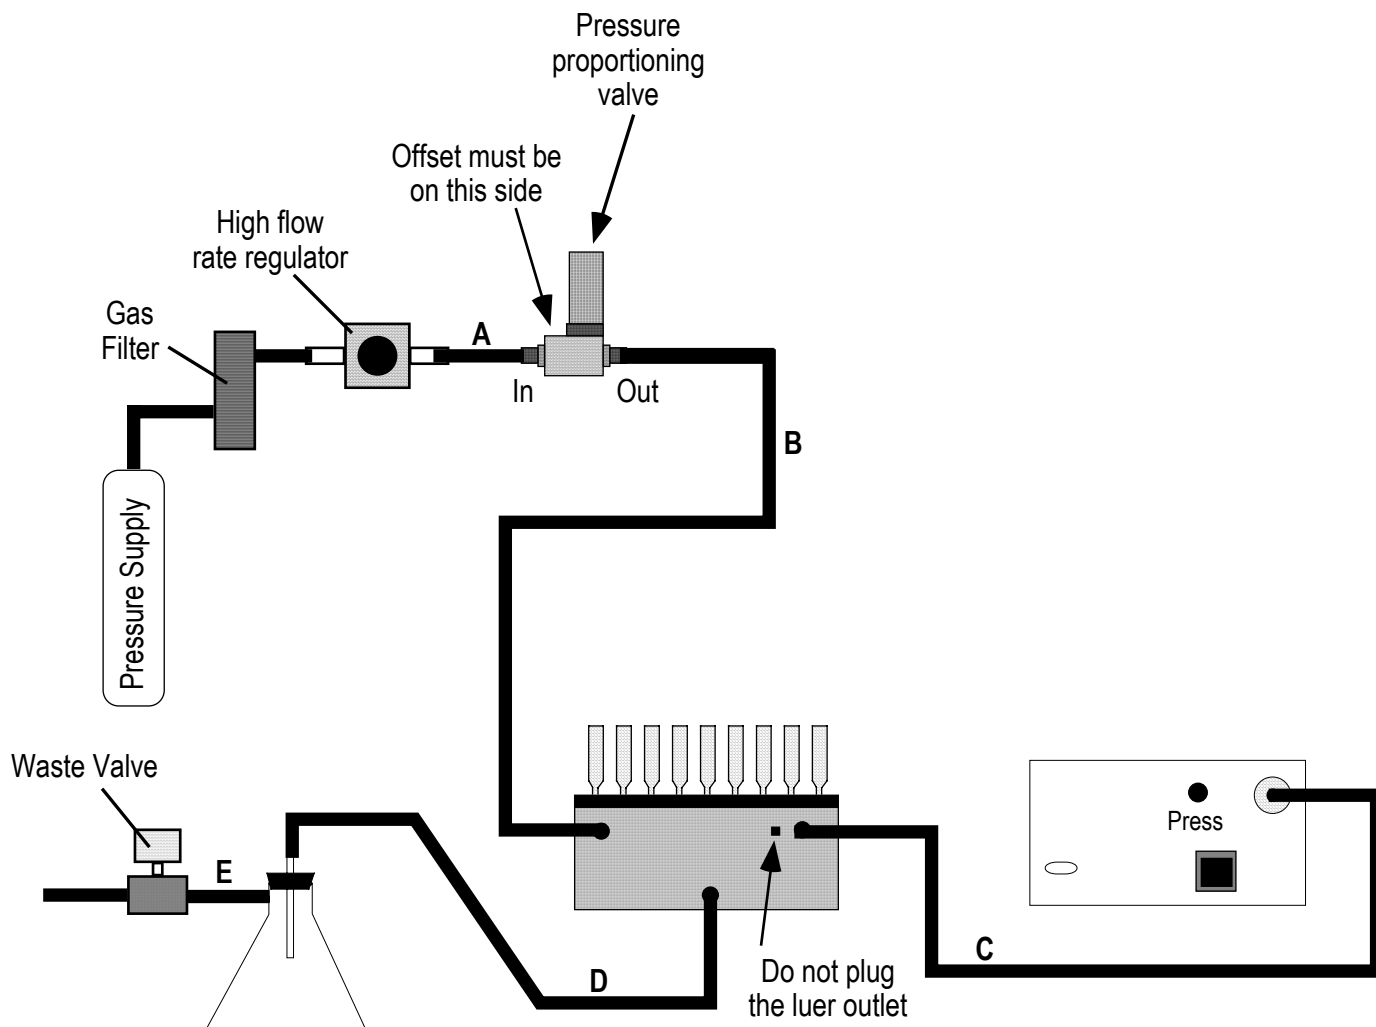

Figure 1
- Connect the outlet of the pressure regulator to the inlet of the proportioning valve using 1/4" I.D. tubing (tube A in Figure 1). The proportioning valve is the small valve with the gray cord. The proportioning valve must be connected in the right direction or the system will not work. The direction of flow will either be marked on the side of the valve, or if there are no markings the valve has an offset on the inlet side of the body of the valve as shown below.
- Connect the outlet of the proportioning valve to one of the barbed nipples on the reactor base using 1/4" I.D. tubing (tube B in Figure 1).
- Connect a piece of 1/4" I.D. tubing between the remaining barbed nipple on the top of the reactor base and the pressure transducer connection on the back of the computer regulator (tube C in Figure 1).
- Connect a piece of 1/4" I.D. solvent resistant tubing between the bottom stainless steel nipple on the reactor base and the top of a side arm flask (tube D in Figure 1). The side arm flask collects waste from the various reaction and wash steps.
8. Connect the inlet of the waste valve to the side arm of the side arm flask using solvent resistant tubing (tube E in Figure 1). The waste valve is the value with a standard power cord and plug. Connect the outlet of the waste valve to a vacuum source and turn the vacuum source on.